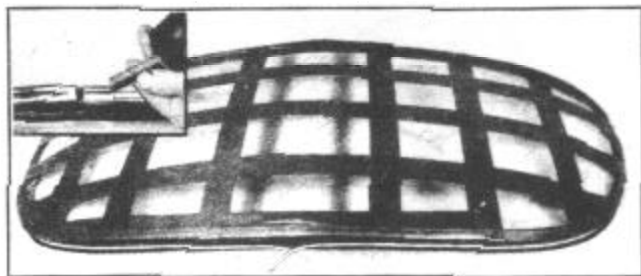

FIGURE 62
4. Install moulding joint covers, Figure 62.